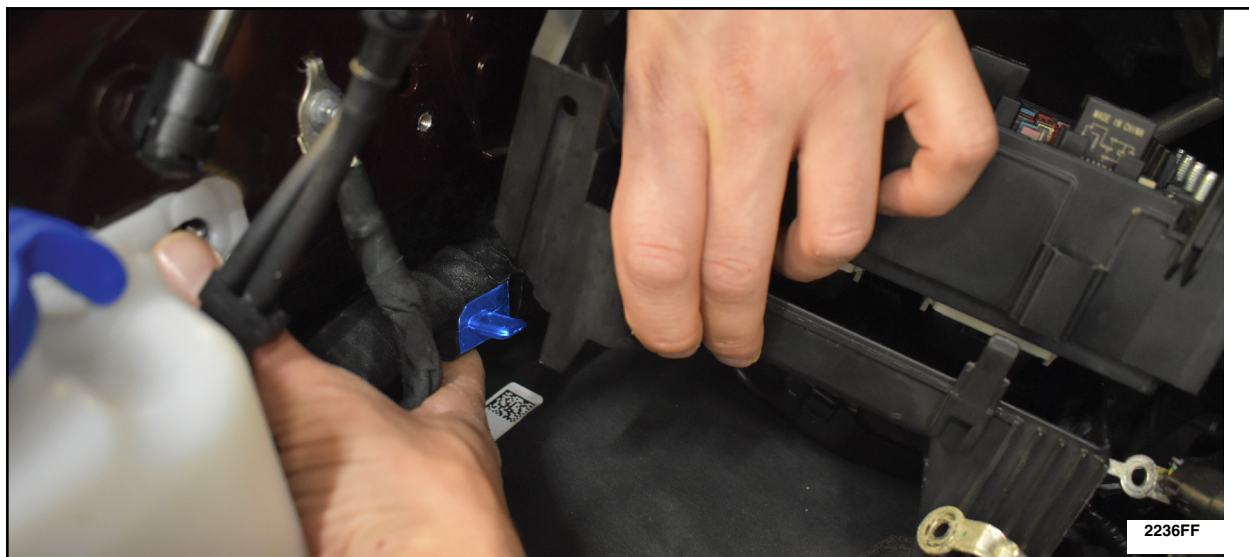

FIGURE 12
13. Release the 2 harness retainers from underneath the lower BJB. See Figure 12.